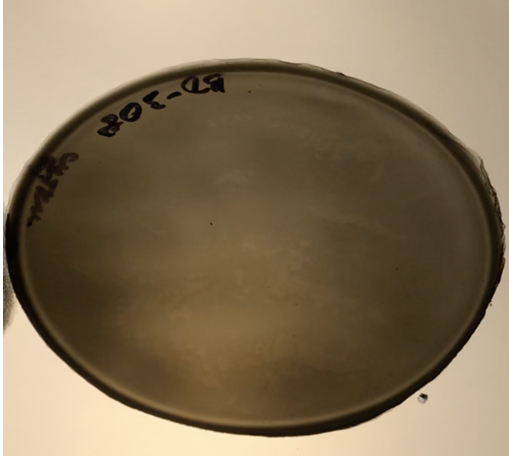
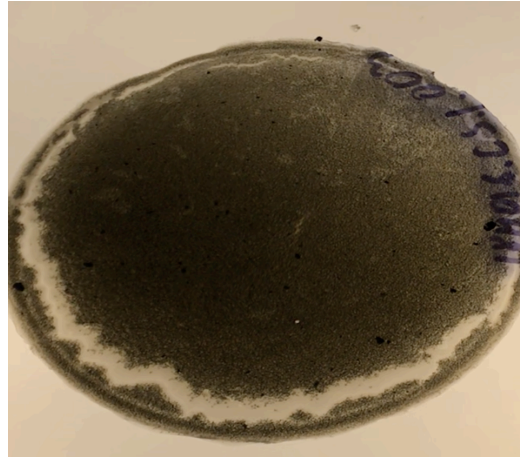

Figure 9
Figure 10
1. Visual: good film (Figure 9) / poor film (Figure 10).